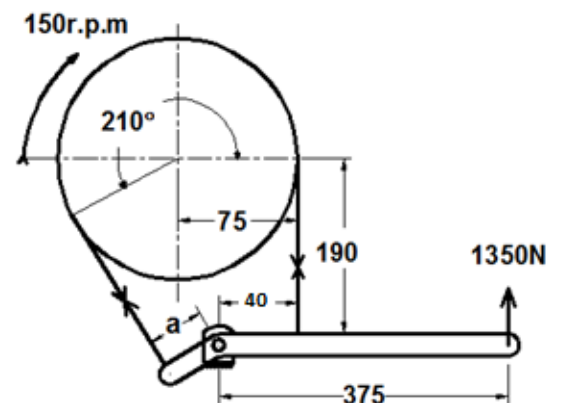

Figure 5
7. A band brake is designed as shown in Figure 5. For the coefficient of friction used, the ratio between the band tensions is 1.75.